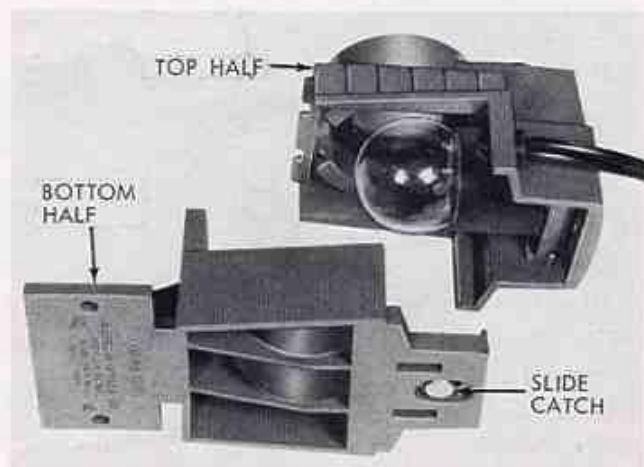

Figure 24. Changing Lamp in "On-Base" Illuminator
- c. Changing Lamp. CAUTION: UNPLUG POWER CORD BEFORE PROCEEDING. To change lamp in Cat. No. 1034 or No. 1037 illuminators, refer to figure 24. The top half of the illuminator is removable from the lower half by unlocking the slide catch on the under side of the illuminator. Tilt the microscope on its side for ready access. When this catch is unlocked,